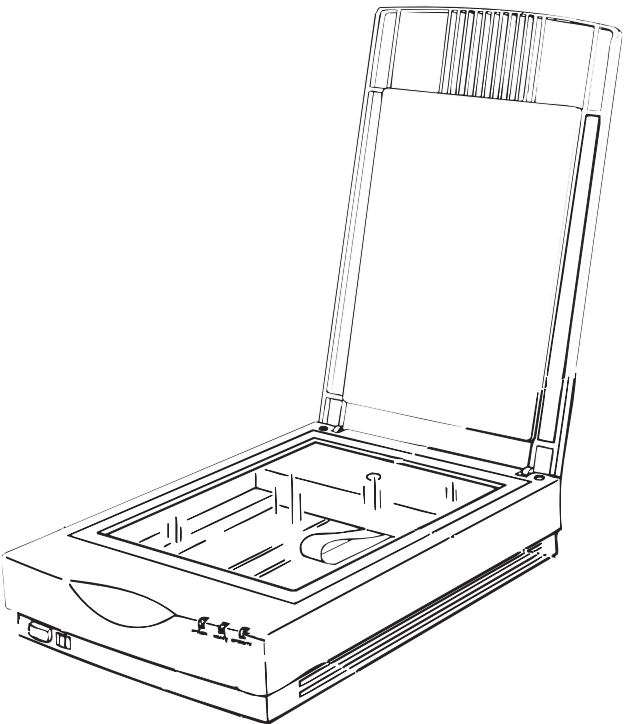

Figure 1-1. Exterior View of GT-5500
Dimensions:	297 (W) x 433 (D) x 87 mm (H) (See Figure 1-1.)